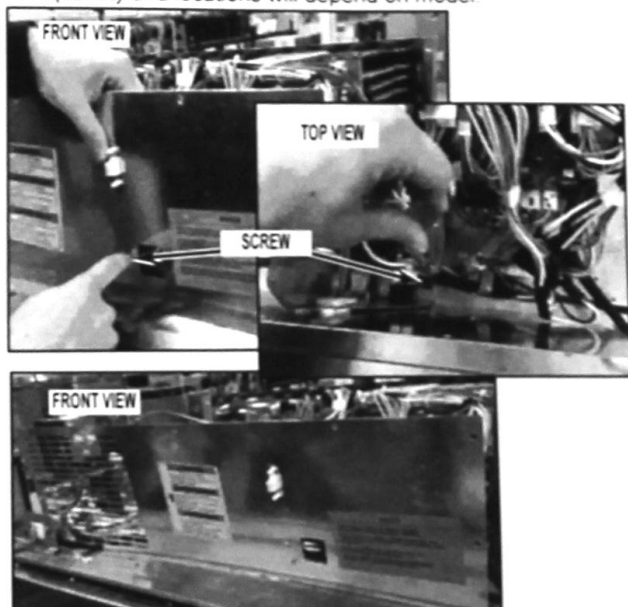

FIGURE 26
- 25 Assemble the front panel and switch plate assembly. Make sure that the switch and test connectors (if applicable) align before assembling the front panel. There are two screws which need to be mounted as shown in *Figure 26*. Screw quantity and locations will depend on model.